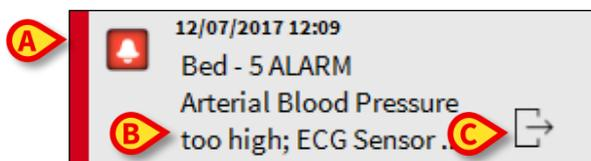

Fig 77
In the message box (Fig 77), the following information is displayed:
- An icon characterizing the message type (Warning, Alarm, Info - Fig 77 **A**)
- An icon indicating the message category (Fig 77 **B**)
- A “Callback” button. Click the button to access the patient station on which the notification occurred (Fig 77 **C**)